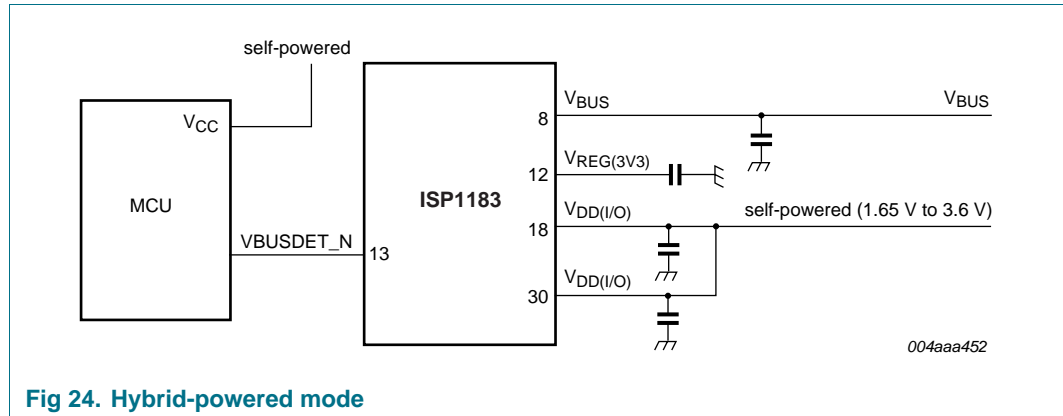

Fig 24. Hybrid-powered mode
- When the USB cable is pulled out, pin `VBUSDET_N` goes HIGH, thereby indicating to the microcontroller that USB is disconnected. See Figure 24.
- When the USB cable is plugged in, pin `VBUSDET_N` goes LOW. This indicates to the microcontroller that the USB cable is plugged in. The microcontroller can then prepare to reconfigure all registers of the ISP1183. See Figure 24.